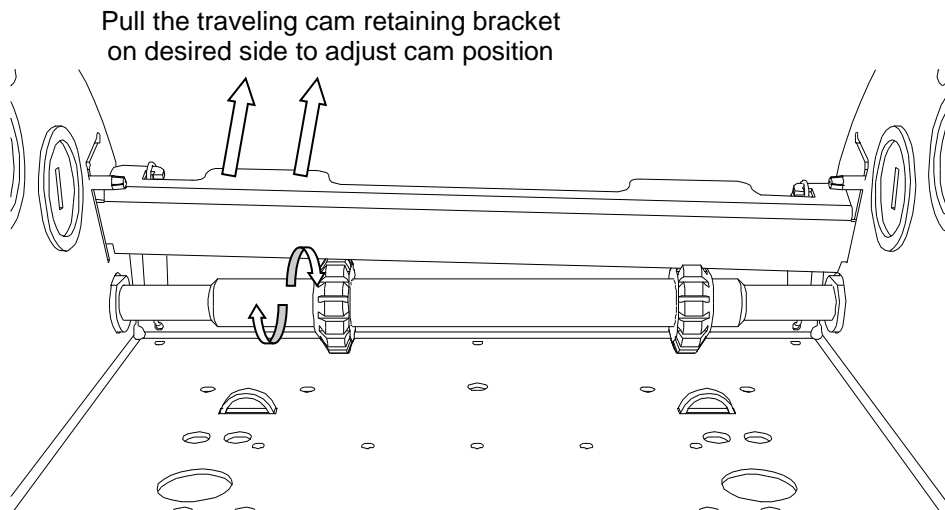

Figure 13 Adjusting the limit cams
3. Pull the travelling cam retaining bracket on the *Open Position cam* side and rotate the *Open Position cam* (Figure13).